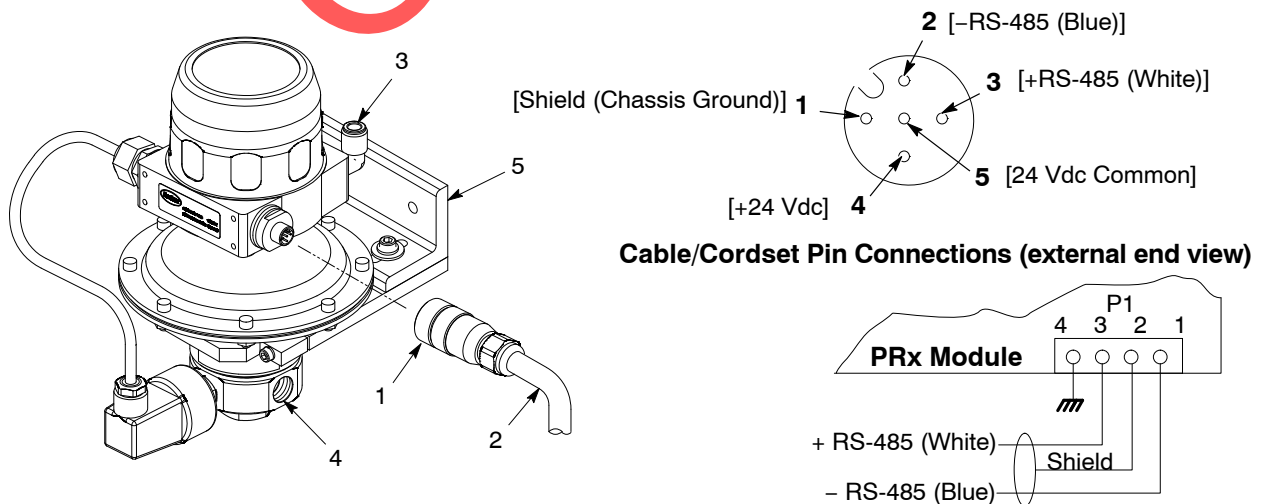

Figure 5 Pressure Controller Installation
See Figure 5. Use this procedure to connect the pressure controller to the PRx module.
1. Mount the controller assembly. Refer to the *Parts* for the optional mounting bracket (5).
2. Use  $\frac{3}{8}$  in. NPT fittings to connect the fluid lines to the IN and OUT fluid ports (4).
3. Run a customer-supplied cable (Belden 3084A or equivalent) (2) from the PRx module to the cordset connector (1).
4. Wire the cordset connector as shown in Figure 5. Wire ferrules are recommended for connections to pins 1 thru 4.
6. Connect the RS-485 wiring to the PRx module P1 terminal block as shown in Figure 5.
7. Connect a source of compressed air to the air inlet port (3). **Input air should be filtered and must be supplied at 5.5 bar (80 psi) minimum. Lower pressures can adversely affect system performance.**